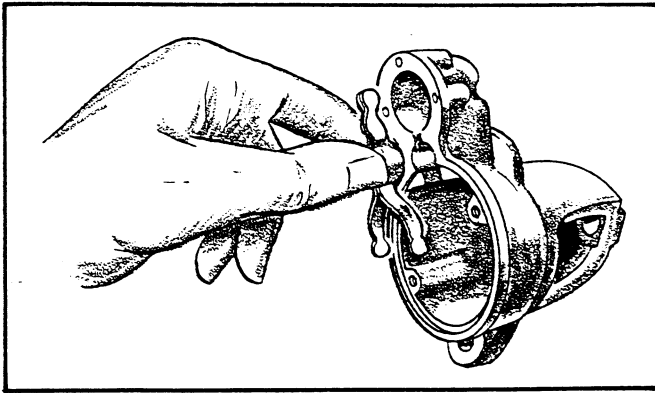

FIGURE 37. INSTALLING SHIFT LEVER
6. Insert the shift lever as shown in Figure 37 into the front bracket.